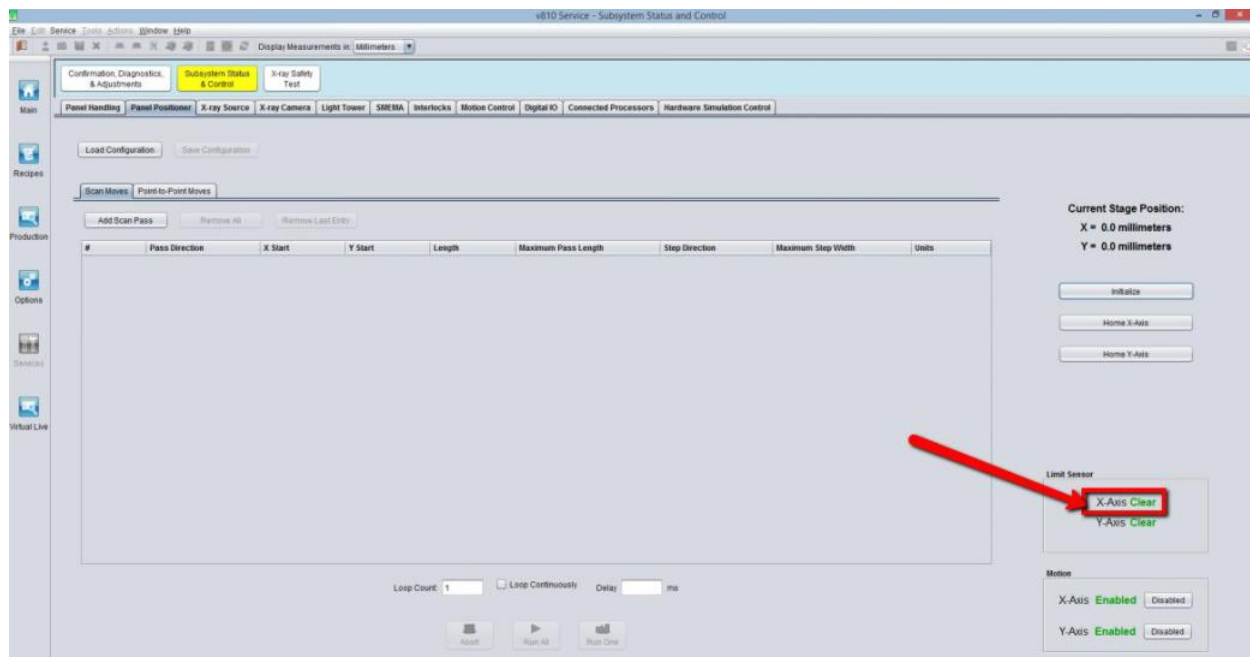

Figure 11 X axis Limit Sensor (CLEAR)
- a) Do not move XY Stage and may check Limit sensor status at Panel Positioner where must stated as "Clear" during home position as shown in Figure 11.